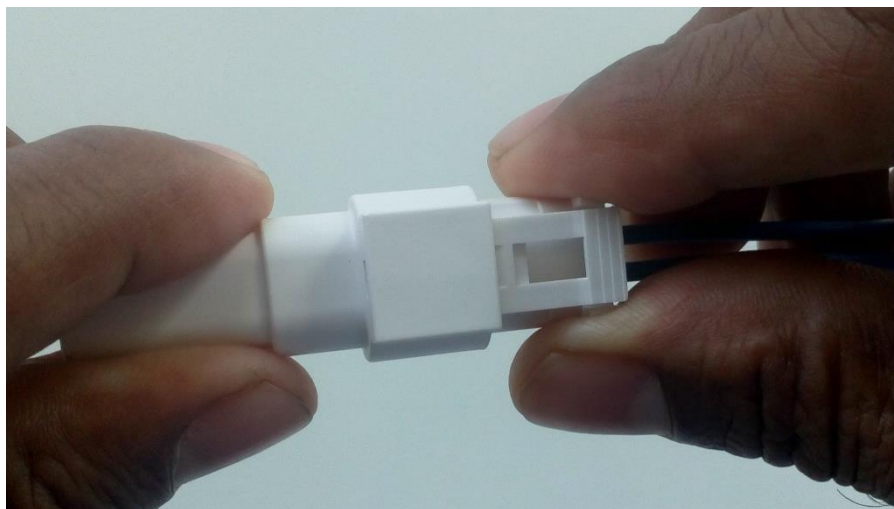

Figure 15
1. Hold the plug connector assembly and receptacle connector assembly as shown in figure 15. Align connector system latch features and begin mating process along the same axis.